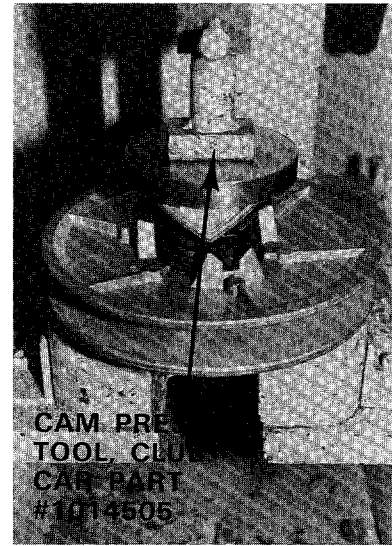

Figure 9-21
1. Install three drive buttons (3) in place. Install #8-32 socket head cap screws (4) with one drop of Loctite® 222 and torque to 7-9 in.-lbs.
2. Slide the movable face assembly (2) onto the fixed face hub (1).
3. Place the end of the spring (6) into the hole in the movable face assembly (2).
4. Install the key (5) into the keyway of fixed face assembly (1) shaft.
5. Holding the cam in position for assembly on shaft, install the other end of spring into the center spring hole of the cam (7). Rotate cam to align cam keyway with key (5) on fixed face assembly (1), start cam onto shaft approximately 1/4-3/8 inch.
6. Place cam press on tool, CLUB CAR part # 1014505, on cam (**Figure 9-21**). Holding the fixed face assembly (1), firmly rotate the movable face assembly (2) 1/3 of a turn counter-clockwise and press cam (7) onto fixed face assembly.
7. Install the retaining ring (8).
8. Holding onto the cam, tap the end of the fixed face hub lightly with a plastic hammer until the cam (7) seats up against the retaining ring (8).